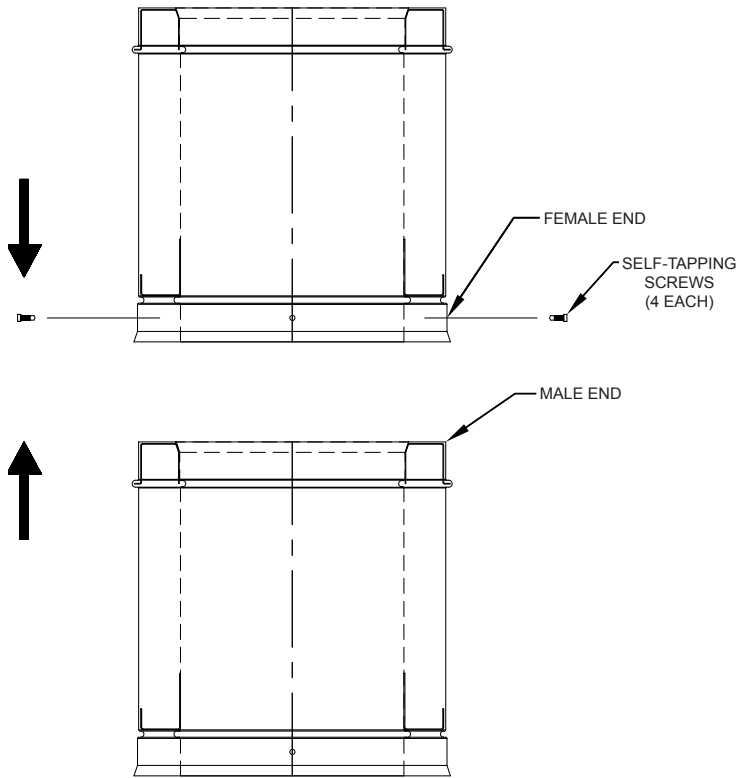

FIG. 2
Attach Chimney: Attach the first section of chimney on the Anchor Plate. The joint assembly is a male to female slip fit and held together with (4) sheet metal screws provided. See **FIG 2**. Do not penetrate the inner liner of the chimney when installing screws. Maintain a 2 inch clearance to combustibles. Do not fill the clearance space with any materials. If an offset is required, refer to Elbow Offset Installation Section.